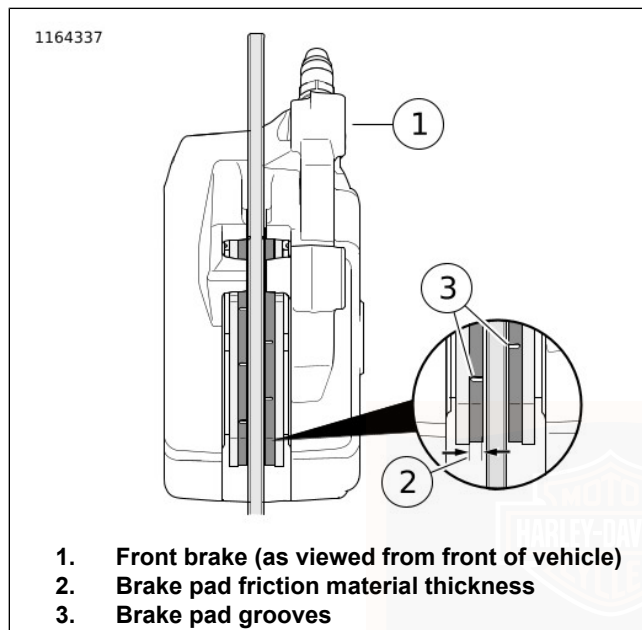
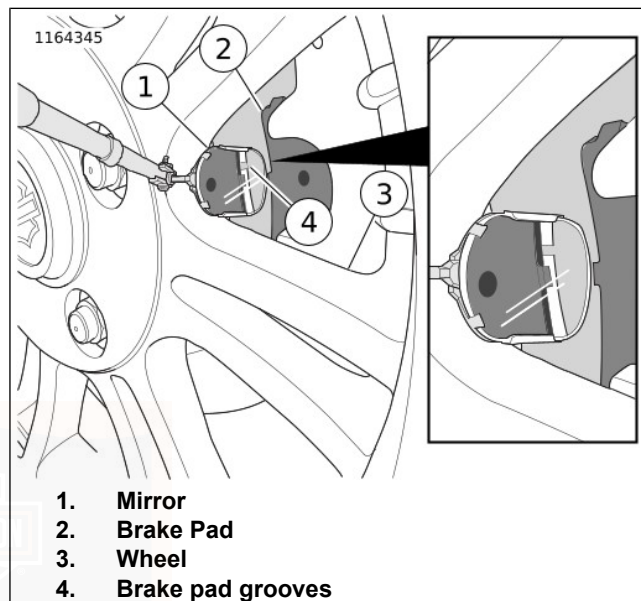

Figure 69. Front Brake Pad Friction Material
Figure 70. Rear Brake Pad Friction Material
2. See Figure 69 and Figure 70. Check brake disc/rotor as it spins. Disc/rotor should run true in brake caliper.